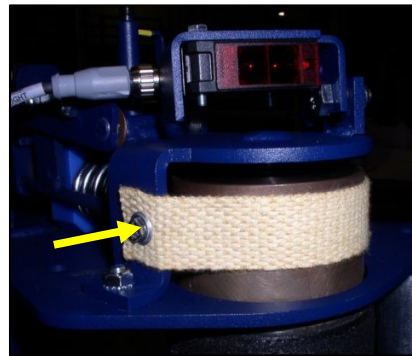

Figure 7.55
2. Use a 7 mm wrench to remove the friction belt (Figure 7.55).